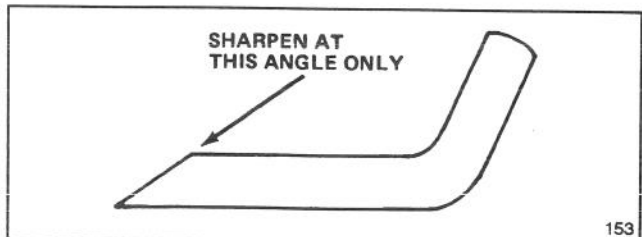

Figure 27
**6. SHARPENING BLADE**—Using a file, sharpen top side of blade and maintain original cutting angle (Fig. 27). The blade will remain balanced if same amount of material is removed from both cutting edges.